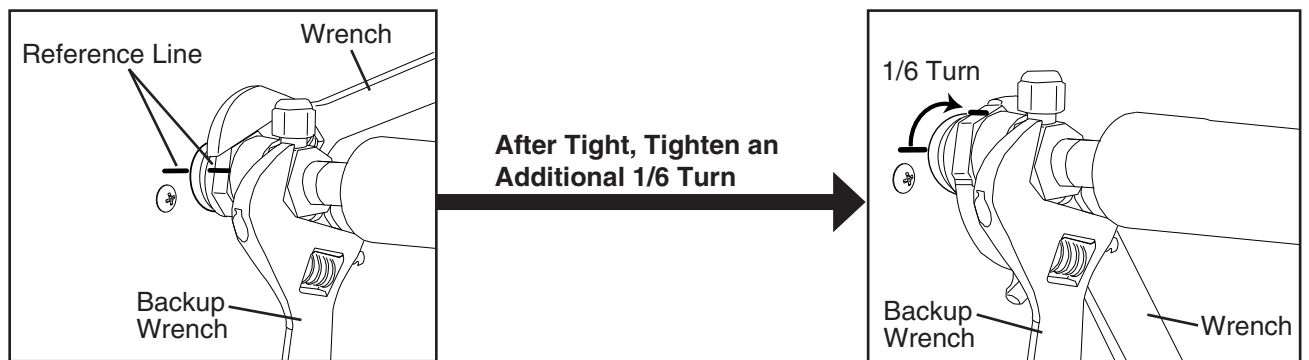

Fig. 8
- e. Mark a reference line on the female coupling and the remote condenser unit or icemaker panel. Using a backup wrench on the back of the female coupling, tighten the six-sided nut of the female coupling an additional 1/6 turn. See Fig. 8.